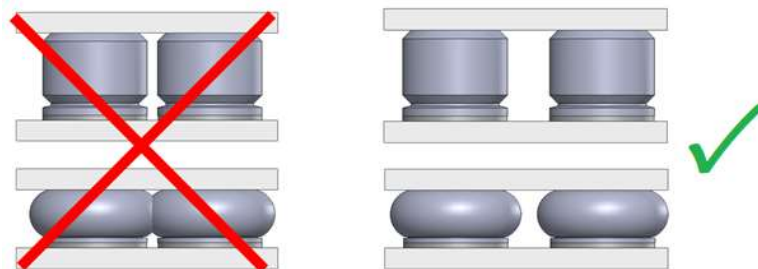

Fig. 7: pay attention to sufficient distance
4.5 In order for the buffers to be able to expand to the diameter d_1 during compression freely, there must be free space next to them (fig. 7). The minimum required free space can be calculated with 4.3.